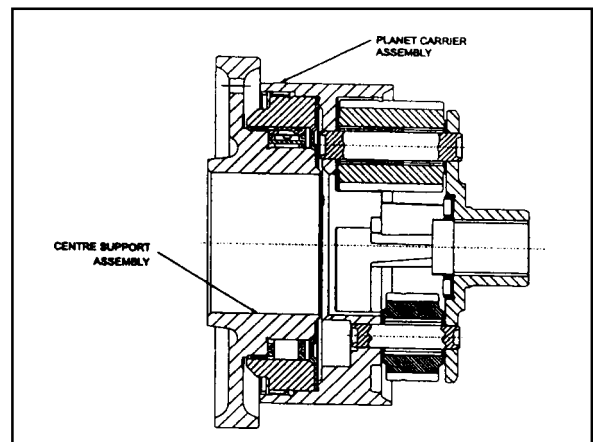

Figure 8.20 - Planet Carrier Assembly and Centre Support
4. Install the OWC into the outer race with the lip edge uppermost. Lubricate the sprags with automatic transmission fluid. Refer to figure 8.20.